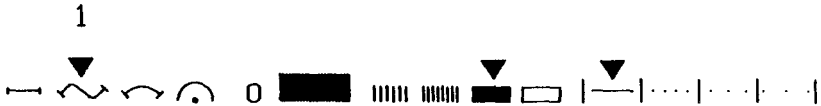

Fig 1
2.4.1 TANGENT ARCS - AUTOMATIC ARCS (1)
As well as drawing straight lines and circles, there are two other line drawing modes which you can select from the palette at any time. The first of these is called Tangent Arc (TAN ARC). The TAN ARC mode is denoted by the symbol shown at (1) in Fig 1 below. It is used for drawing an arc of a circle given a start direction and an end-point. The start direction is usually defined by the last line drawn on the screen, but you can change this if you wish.
- 3 Select the arc symbol (1) in Fig 1.